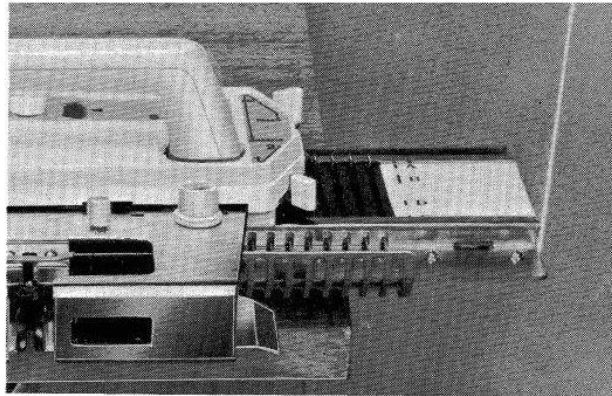

Fig.82 **SCL's TO "KNIT" POSITION**
- (c) With carriage on right, remove M.C. from carriage feeder, pull and place it at the right end of the needle bed. (Fig.82)